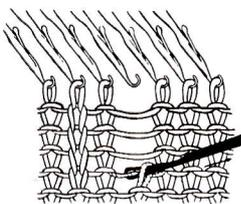

Fig. 33
d. In up and down motion, catch horizontal threads one by one to form new stitches until you have knitted back to the top of your work. The final stitch is placed back on the empty needle. (See Fig. 33, 34, 35)